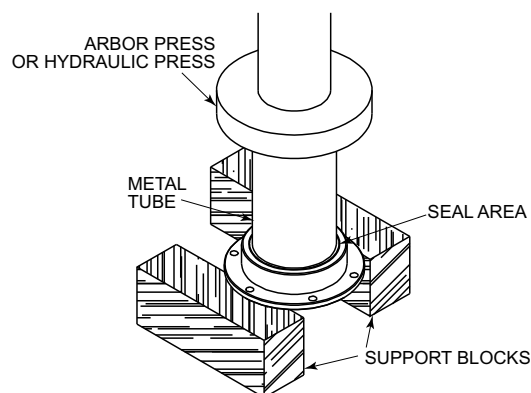

Figure 6.2.2 Removal of Seals from Seal Carrier
2. With a set of blocks or equivalent, support the seal carrier up so the seals can be pushed out; reference Figure 6.2.2.